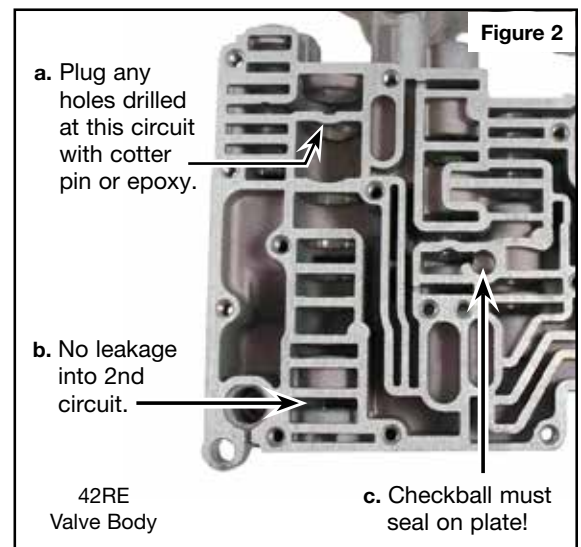

**Figure 1**
**NOTE:** Fits '78-Later only (**Figure 1**)